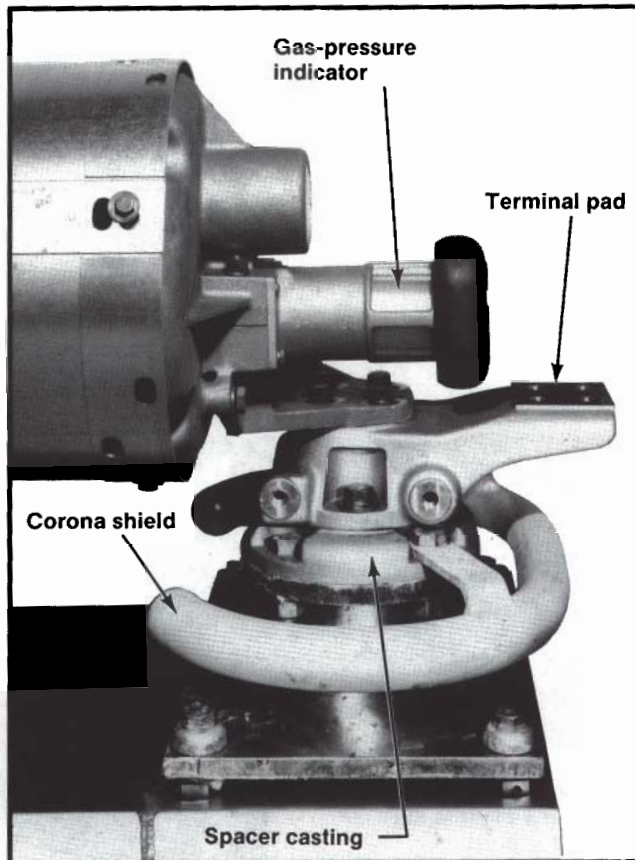
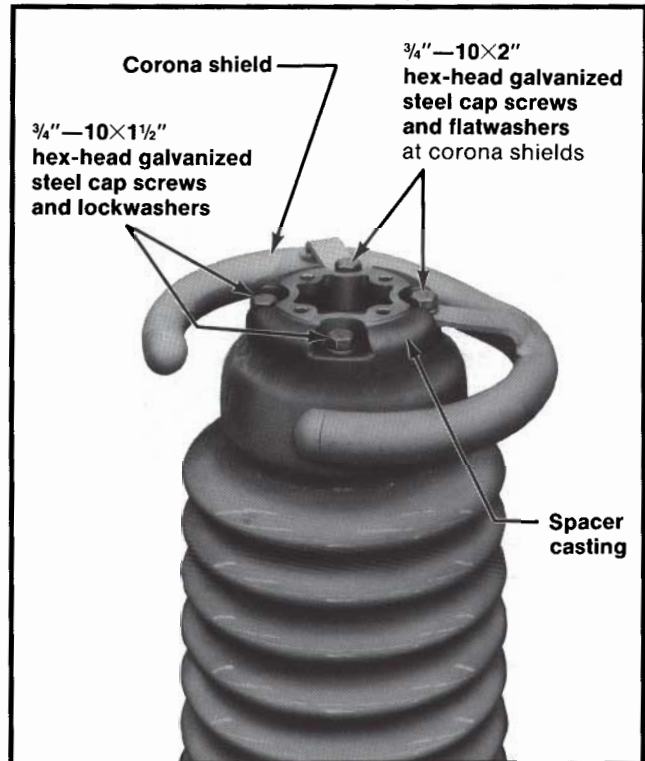

Figure 6. Terminal detail, interrupter end (1600-ampere rating shown).
Figure 13. Spacer casting hardware requirements for stationary insulator stack (1600-ampere rating).
- (c) Remove the cap screws fastening the blade-hinge assembly to the blade-adjustment disc on the center insulator support, and the cap screws fastening the interrupter terminal end to the stationary insulator support. (For the 1600-ampere rating, a spacer casting is used under the interrupter terminal pad. See Figure 6. Disassembly and later reassembly will be simplified by handling the spacer as a separate item, i.e., unbolting the spacer from the terminal pad as well as from the insulator support.)
For the 1600-ampere rating, mount a spacer casting and corona shield on the stationary insulator stack, using the galvanized hardware indicated in Figure 13. See also Figure 6 for orientation.